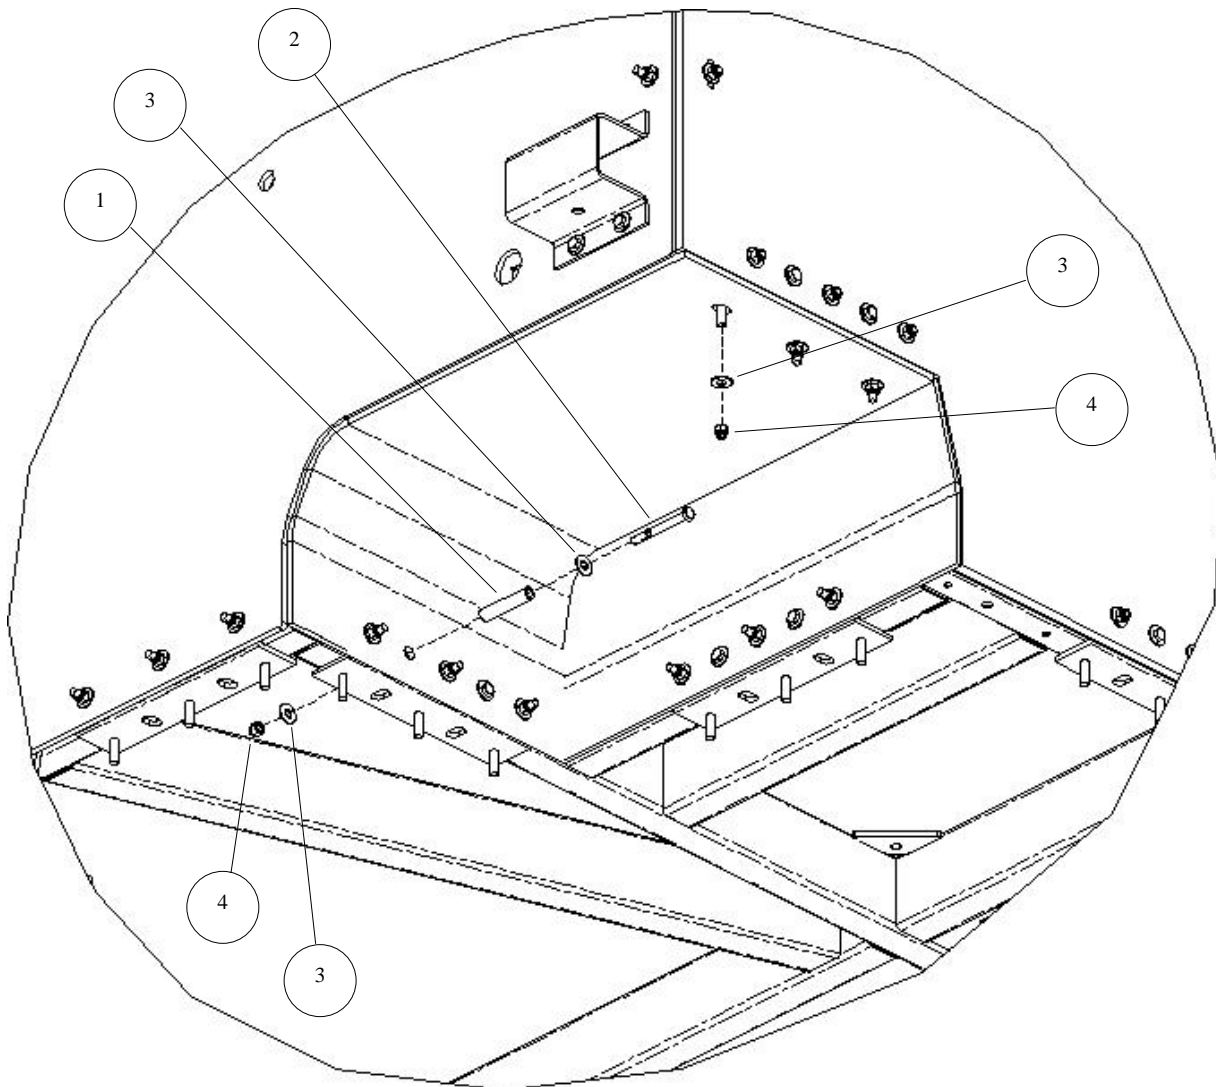

Figure 3-31. Upper Wheel Well Panel Installation.
6. Install cab frame rail sleeve bushings as follows (see Figure 3-31):